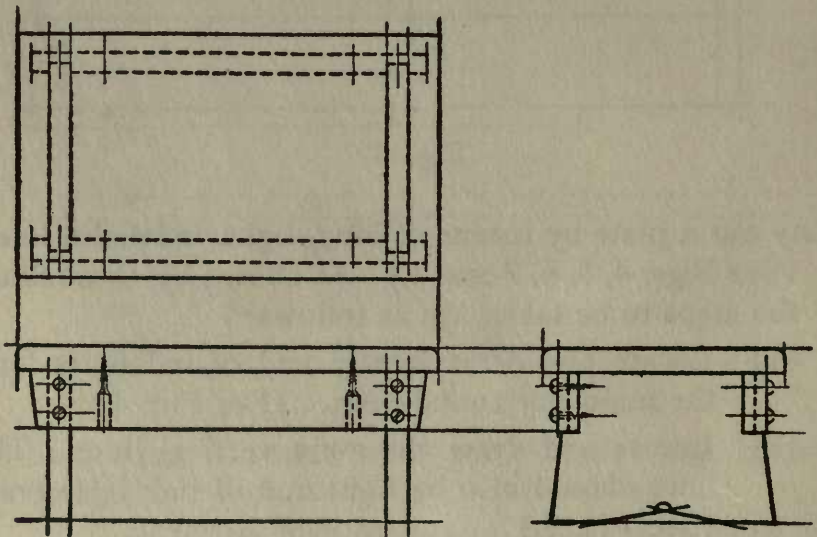

Fig. 7.
- (4) Go over the outlines of the figure with a heavy line. Circles and arcs of circles should be drawn over first. (See Fig. 7.)